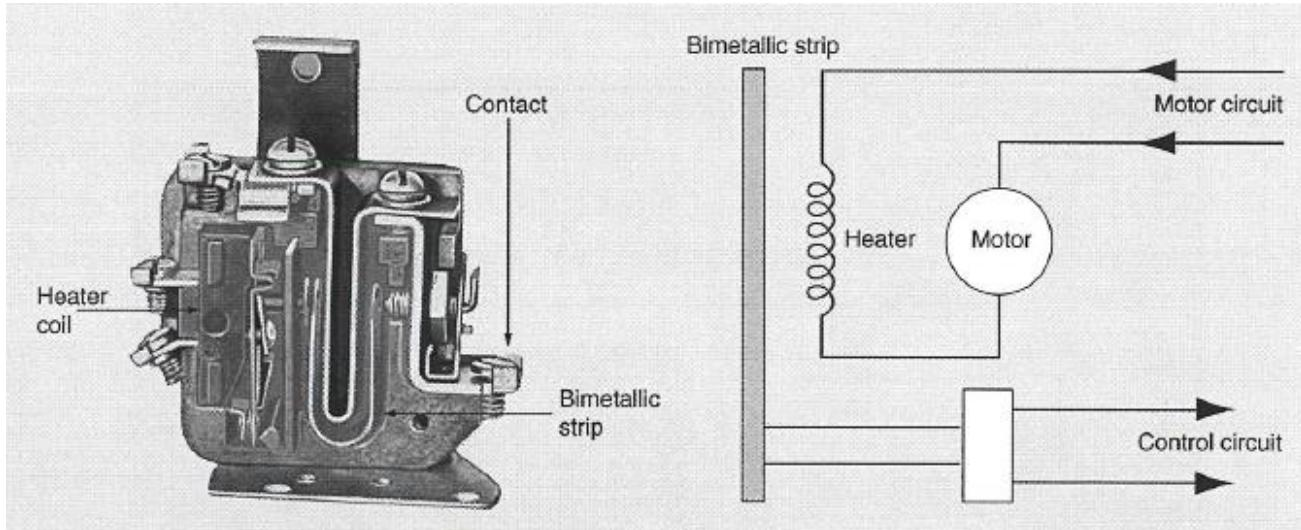

Figure 6.11: Bimetallic relay
- 6-57 Bimetallic overload relays work on another principle. Figure 6.11 is a diagram of this kind of relay. Heat causes the bimetallic strip to bend, because the two metals expand at different rates. As the heater current increases, the bimetallic strip bends until it actuates a switch.